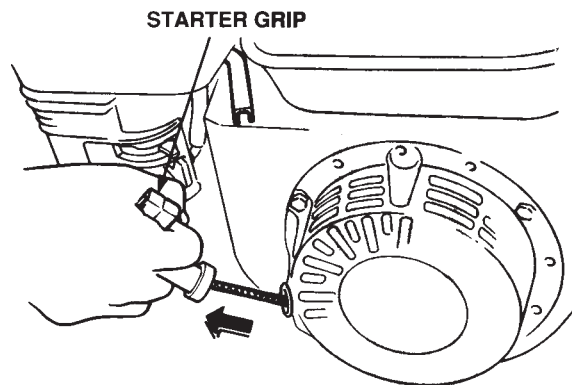

Figure 15. Starter Grip
5. Grasp the starter grip (Figure 15) and slowly pull it out. The resistance becomes the hardest at a certain position, corresponding the compression point. Rewind the rope a little from that point and pull out sharply.
1. Grasp the compactor's hand grip (Figure 15), and move the engine throttle lever quickly from the **turtle** position (idle) to the **rabbit** position (full throttle) position.
3. To make the compactor move in the forward direction push the travel lever (Figure 15) forward.
4. To make the compactor move in the reverse direction pull the travel lever (Figure 15) backwards.